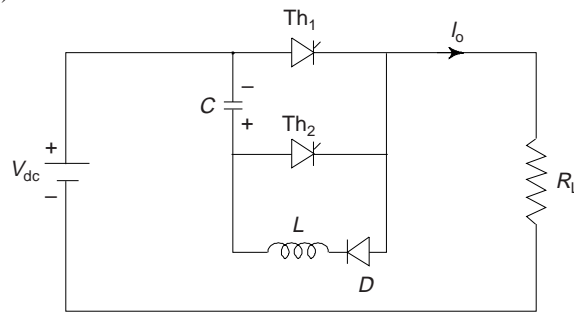

Fig. P12.2
- 12.2 A chopper circuit as shown in Fig. P12.2 is inserted between a battery, $V_{dc} = 100 \text{ V}$ and a load of resistance $R_L = 10 \ \Omega$. The turn-off time for the main thyristor Th_1 is $100 \ \mu\text{s}$ and the maximum permissible current through it is 25 A . Calculate the value of the commutating components L and C .